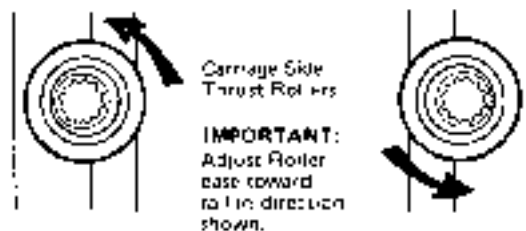

Figure 38. Carriage Side Thrust Rollers.
*Lubricate the inner upright rails with chassis lube or Kendall SR-12X . See Figure 38.